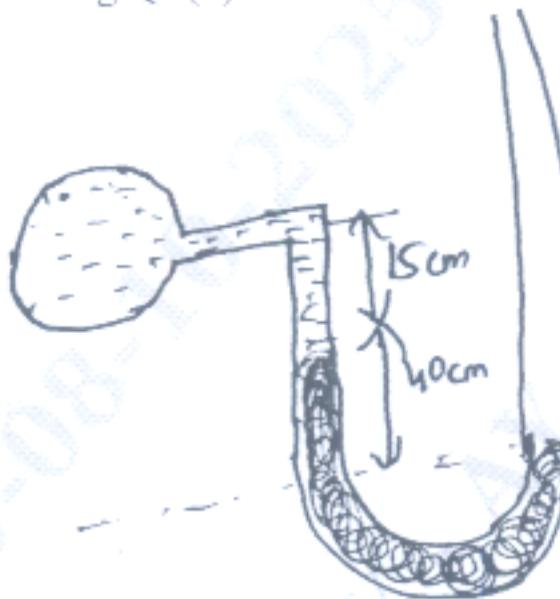

Fig Q8(b)
b.	A simple U-tube manometer containing mercury is connected to pipe in which a fluid of specific gravity 0.8 and having vacuum pressure is flowing. The other end of the manometer is open to the atmosphere. Find the vacuum pressure in pipe, if the difference of mercury level in the two limbs is 40 cm and the height of the fluid in the left from the centre pipe is 15 cm below Fig Q8(b).